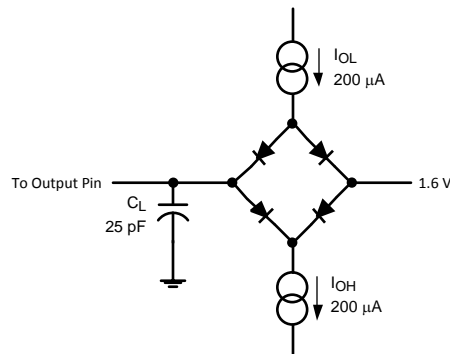

Figure 1. Timing Test Circuit
- (1) Data sheet min/max specification limits are specified by design, test, or statistical analysis.
- (2) Measured with the timing test circuit shown in Figure 1 and defined as the time taken by the output signal to cross 1.0V.
- (3) Measured with the timing test circuit shown in Figure 1 and defined as the time taken by the output signal to cross 1.0V or 2.0V.
- (4)  $t_{DIS}$  is derived from the time taken by the outputs to change by 0.5V with the timing test circuit shown in Figure 1. The measured number is then adjusted to remove the effects of charging or discharging the output capacitance. This means that  $t_{DIS}$  is the true bus relinquish time, independent of the bus loading.